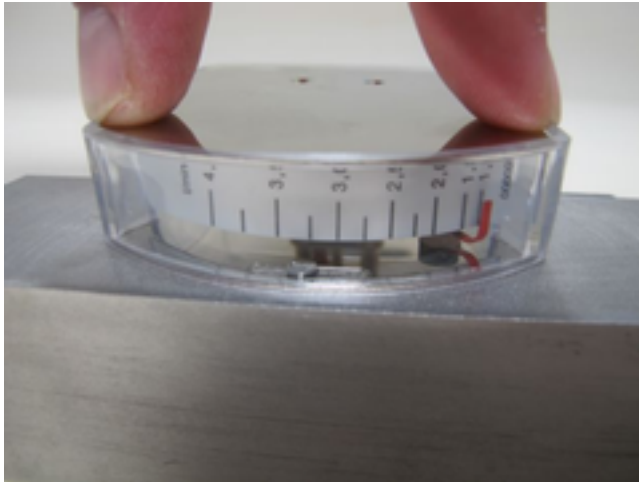

Fig. 76: Install the cover plate
26. ▶ Insert the display cover plate into the plastic housing and gently press (*Fig. 76*) until it snaps into place.